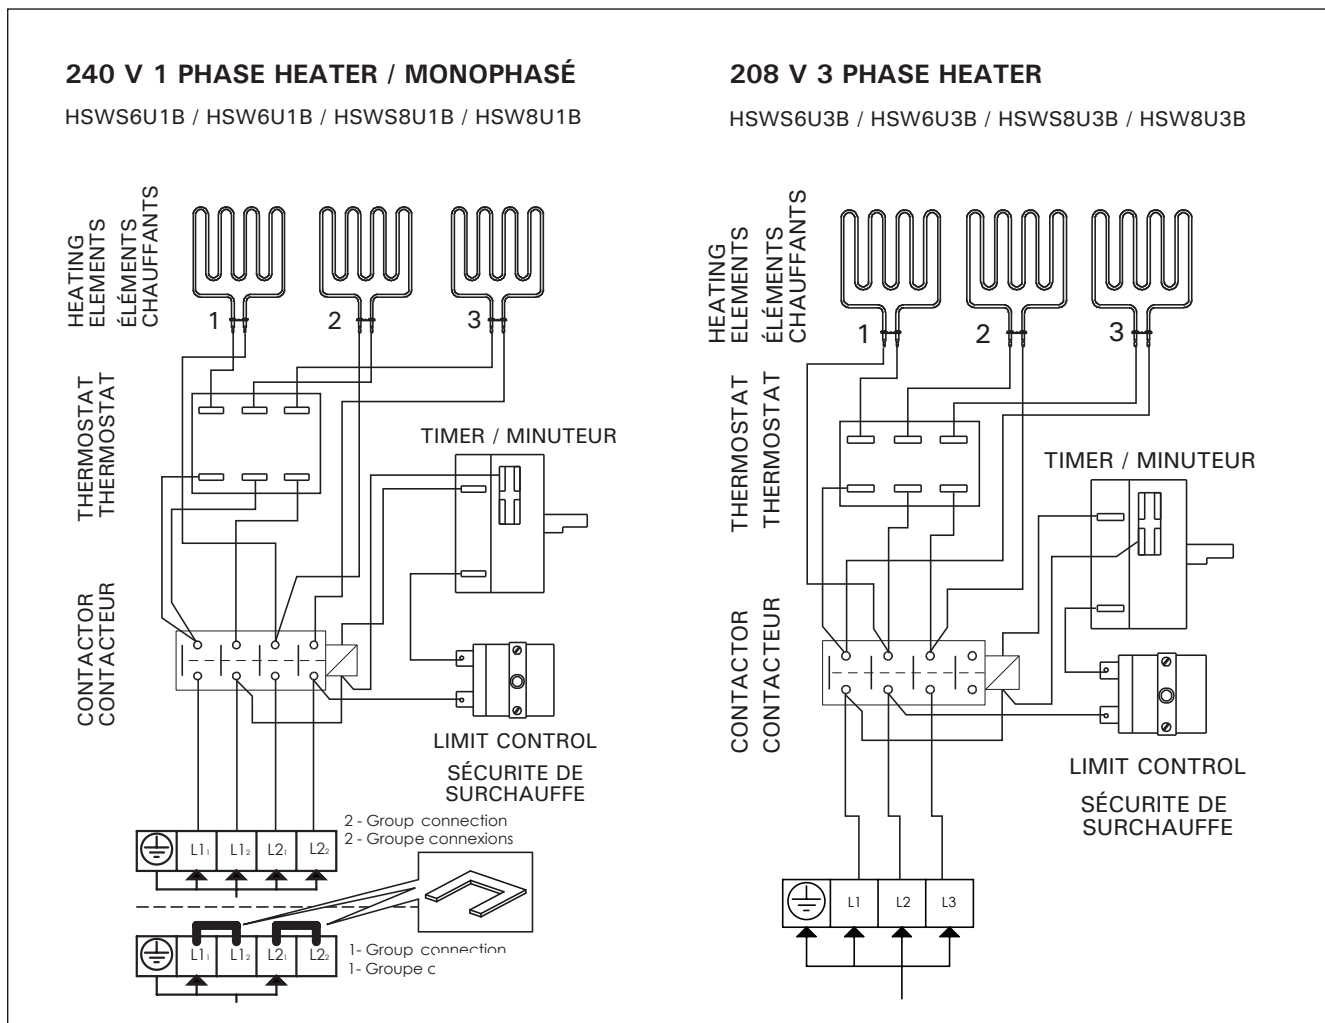

Figure 5. Electrical connections of the heater
2. See applicable wiring diagram for heater model (figure 5). Heater must be permanently installed by using seal tight conduit between the heater and the wall of the sauna room (pigtails or plugs are not allowed in the sauna room). Wiring must be done by a licensed electrician, who must fol-